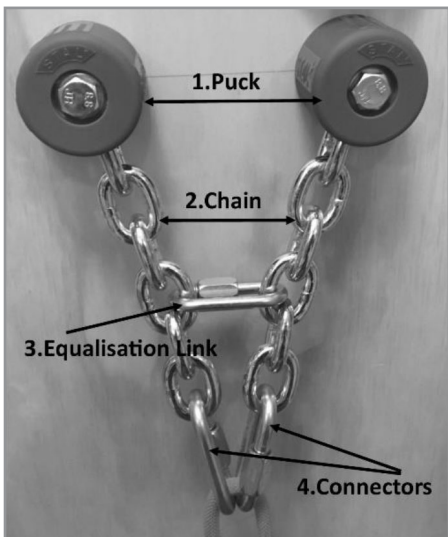

Fig.1
- This product may be used in conjunction with any appropriate item of Personal Protective Equipment (PPE) relevant to European Union Directive 89/686/EEC / PPE Regulation (EU) 2016/42. It may be acceptable for use in other applications, please consult DMM or your supplier.
- Fig.1 - Component identification and materials
7. Fig.1 - Installation
4. Fig.1 - Identification des composants et matériaux
7. Fig.1 - Installation de l'ancrage
4. Fig.1 - Komponentenidentifikation und Materialien
7. Fig.1 - Anbringung der Verankerung